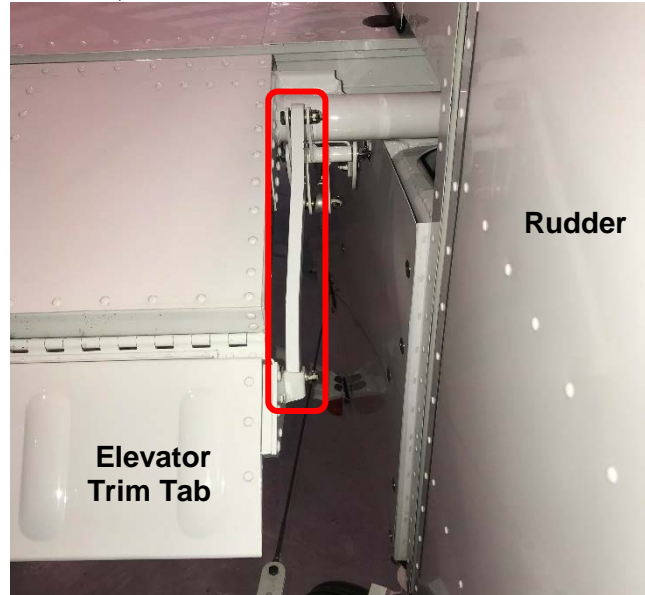

Figure 45-17
- c) Install Lever Assy to reattach Elevator Trim Tab. See Figure 45-17.